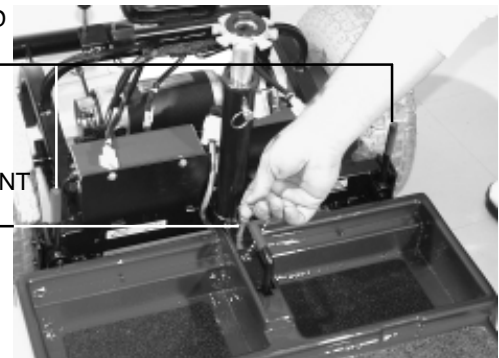

Figure 15. Frame Locking Levers / Ball Detent Pin
9. Remove the ball detent pin from the frame. See figure 15.
10. Move the camlocks to the unlocked, (vertical), position. See figure 15.